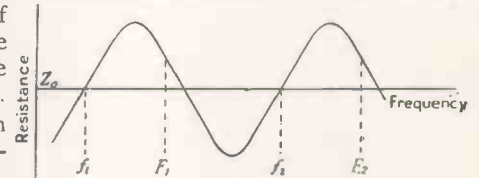

Fig. 7.
Equation (2) is important because it enables the magnitude and location of a capacitive impedance irregularity to be determined from measurements of the input resistance of the terminated feeder over a frequency range. Fig. 7 illustrates a possible curve of input resistance against frequency. Since it is sinusoidal it may be inferred that the impedance irregularities are restricted to a small length of feeder and so are probably due to a single cause. The "periodic interval" of the oscillation ($f_1 - f_2$) locates the irregularity at a distance of $c/[2(f_2 - f_1)]$ from the input end, and an inspection of the feeder in this vicinity should show the cause.
which the short-circuited feeder is an odd multiple of a quarter-wavelength. If these frequencies are F_1 and F_2 , etc. (see Fig. 7) then the electrical length to the short-circuited point is less than that to the irregularity by